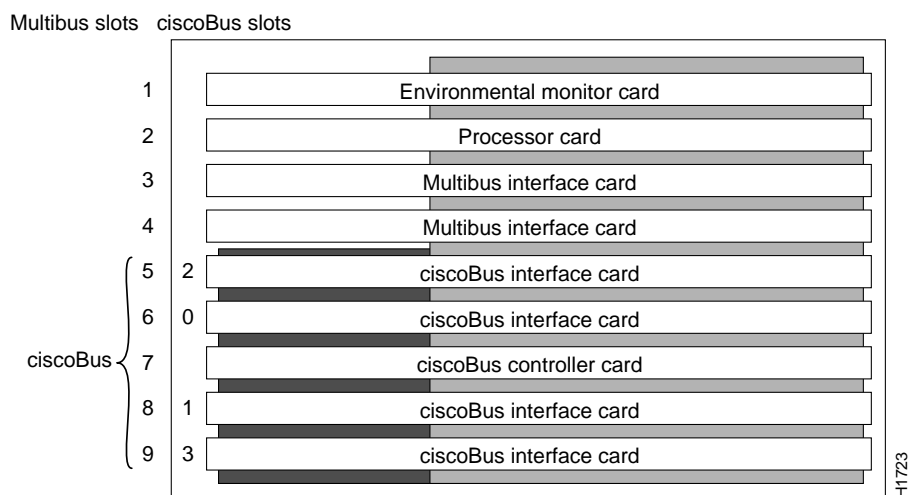

Figure 10 AGS+ System Card Cage
- Step 5** Locate the existing processor card, if any. This card will be either a CSC/1, CSC/2, or a CSC/3 you are replacing, or a CSC/4 if you are upgrading the system software or replacing a bad CSC/4. The processor card is in the top slot in any chassis *except* an AGS+; where the processor card is in the second slot from the top. (See Figure 10.)
If you are installing the card in an M or C chassis in which the top slot is empty, place the CSC/4 in the top slot. As an example of placement in a card cage, an AGS+ card cage is shown in Figure 10.